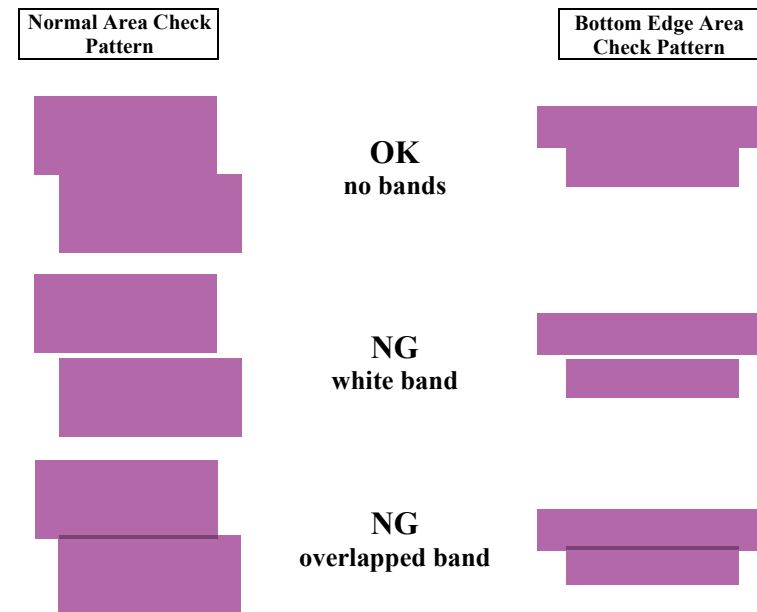

Figure 2-18. PFP Check Pattern Judging Standard
7. Referring to Fig. 2-18 check that there is no white or overlapped bands in all the check patterns. If any bands are found, carry out the steps below.